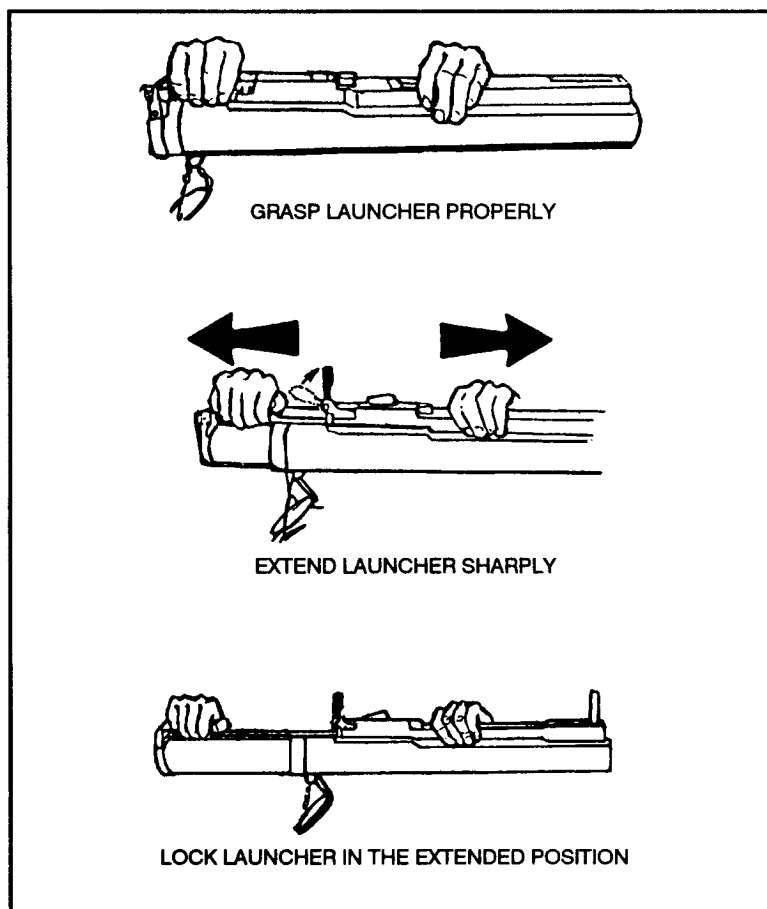
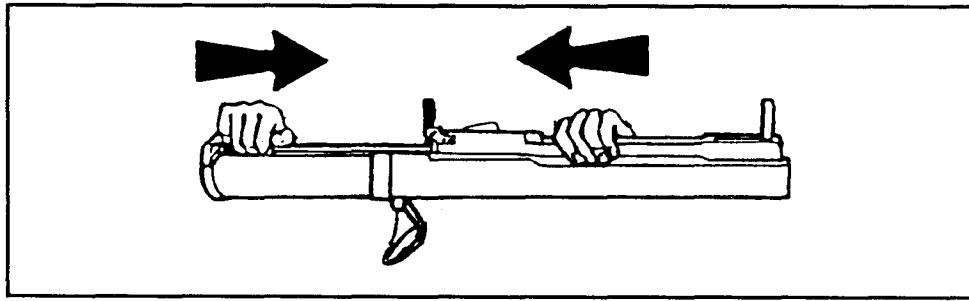

Figure 2-17. Extending the launcher.
Figure 2-18. Ensuring launcher is locked in the extended position.
(2) With your firing hand, grasp the rear sight cover; with your nonfiring hand, grasp the launcher forward of the barrel detent. Pull your hands sharply in opposite directions to extend the launcher (Figure 2-17). To ensure the launcher is fully extended and locked, try to close it (Figure 2-18, page 2-14).